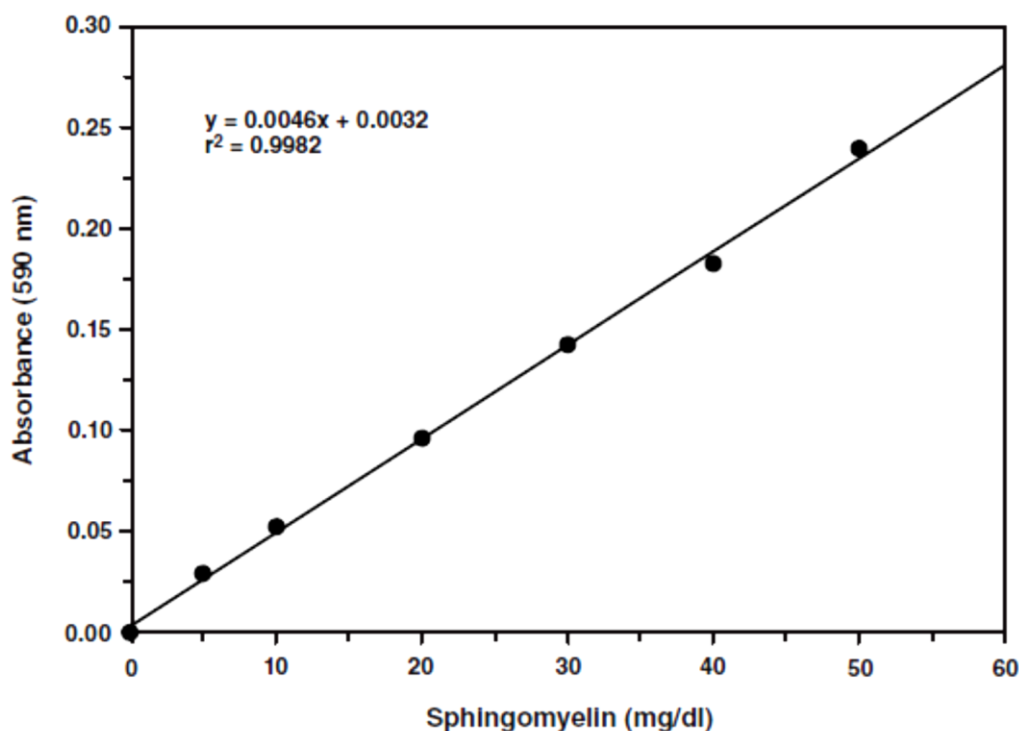

Figure 4. Sphingomyelin standard curve
3. Graph the CAV of the standards as a function of the final sphingomyelin concentration (mg/dL) from Table 1. See Figure 4 for a typical standard curve.